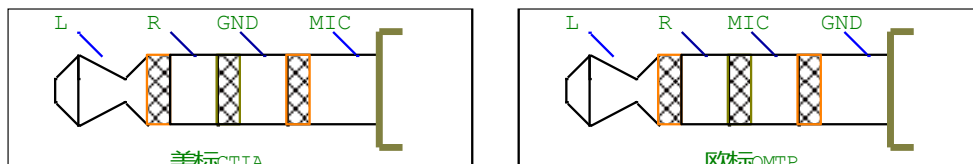

Figure 2-40 The Headphone Interface Difference between CTIA and OMTP
- Different headphone sockets have different structures. The headphone connection method must consider the actual structure of the headphone socket. For details, please refer to the corresponding specifications of the headphone socket, and consider the connecting sequence of four-segment headphones in the European standard (OMTP) or American standard (CTIA). The standard case defaults to the American standard four-segment headphone connection. Figure 2-40 shows the interface difference between CTIA and OMTP.